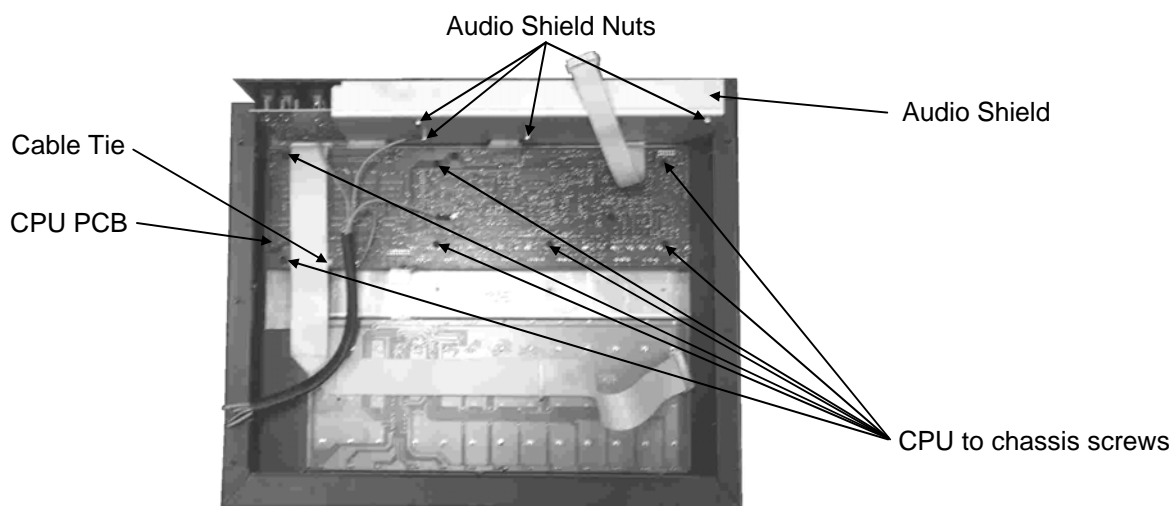

fig.14
- 2) Remove the 4 nuts from the Audio Shield (see fig.14), retaining the crinkle washer. Remove Audio shield.
- 3) Remove the 7 screws from the CPU circuit board (see fig.14)
- 4) Remove the 2 connecting IDC Harnesses from the CPU circuit board and cut the connecting cable tie (see fig.14)